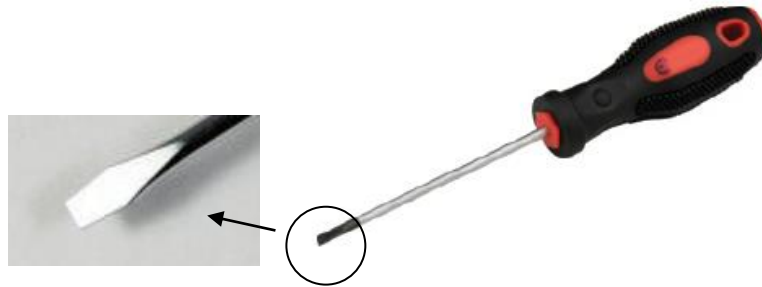

Figure: 5
- Slotted screwdriver is available as below Figure 5: